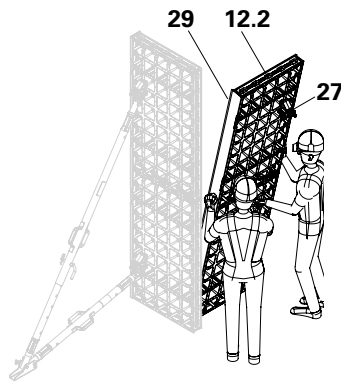

Fig. C1.05
5. Pre-assemble the second panel unit with DUO brace connectors (27) and DUO 135 chamfer strips (29).
6. Connect the second panel unit to the first panel unit using the DUO corner connector (23). (Fig. C1.05 + C1.06)